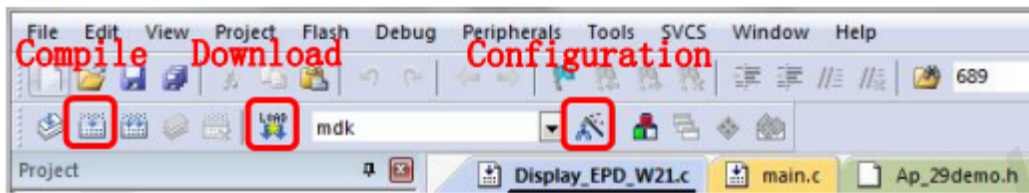
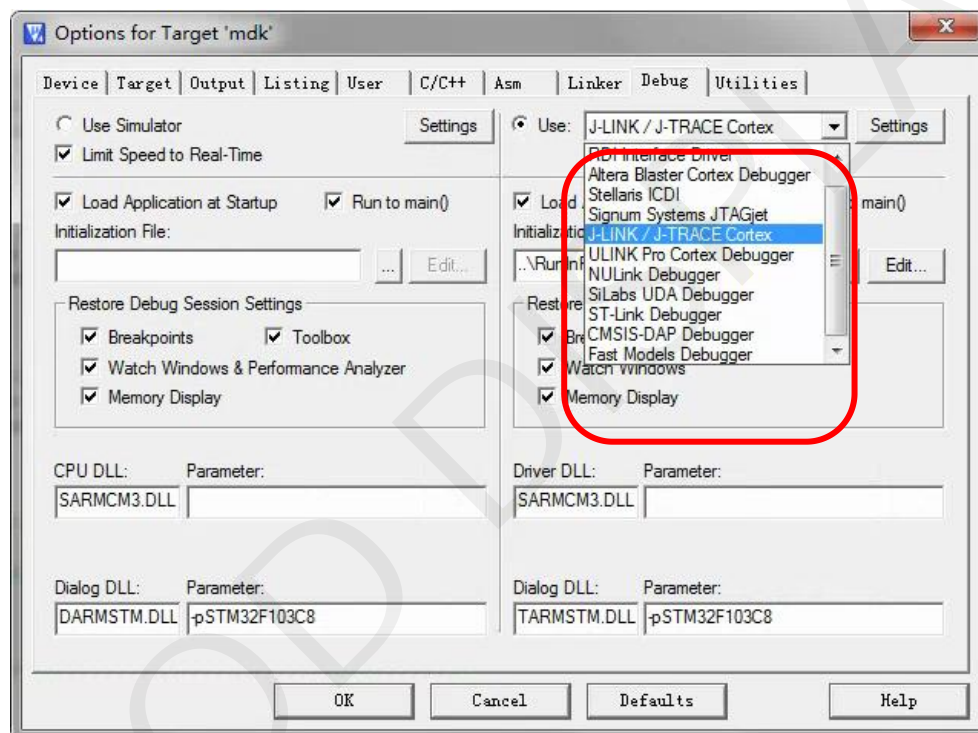

Figure 11 :Keil4 tool bar
Figure 12: Choose the simulator model
3) The Keil4 toolbar is shown in Figure 11. Please click  at the first time using the simulator and a box like Figure 12 will pop up. Choose the simulator model of yours in the "Debug" bar, and click "OK" to confirm.
5)Click  in the toolbar in Figure 11 to compile.
6)Click  in the toolbar in Figure 11 to download.